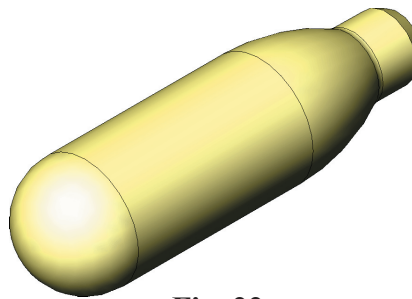

Fig. 22
- click **OK**  in the Property Manager, Fig. 22.